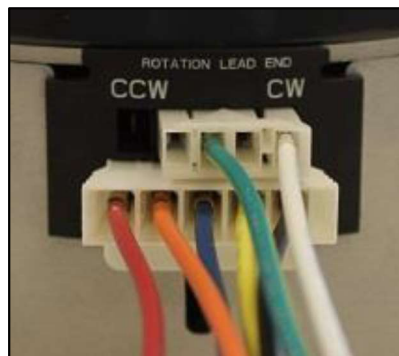

Figure 2
4. Connect the 5 speed and reversing harness to the motor connector as shown in Figure 2. See page 14 for the positioning of the reversing connector to specify rotation.